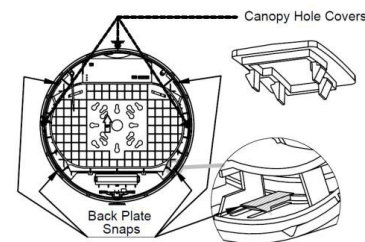

FIGURE 3
3. Remove the back-plate by prying back the 4 snaps retaining it. (See Figure 3).